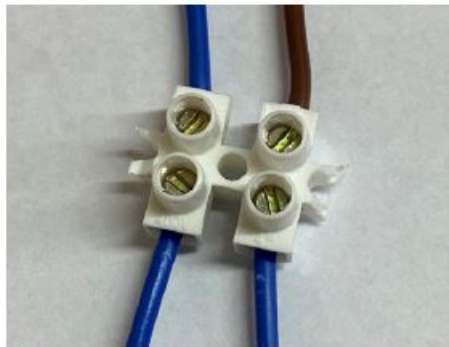

fig.5
- Neutral Wiring (with safety brake): (1) Connect inside case neutral wire power (blue) to blue wire safety brake, (2) Connect brown wire safety brake to neutral wire motor (blue) (fig.5).
- Neutral Wiring (with safety brake) – (1) connect in-side case neutral wire power (blue) to blue wire safety brake, (2) connect brown wire safety brake to neutral wire motor (blue) (fig.5).
8. Neutral Wiring (with safety brake) – (1) connect inside case neutral wire power (blue) to blue wire safety brake, (2) connect brown wire safety brake to neutral wire motor (blue) (fig.5).